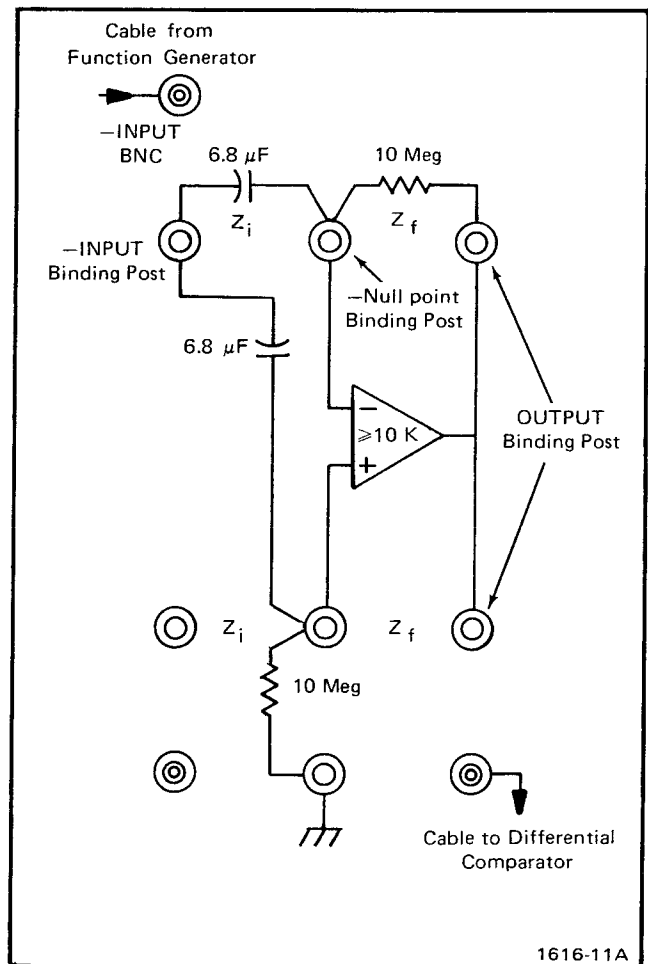

Fig. 2-2. Operational amplifier connected to check Common Mode Rejection Ratio.
b. Connect the two $6.8 \mu\text{F}$ capacitors and the two $100 \text{ M}\Omega$ resistors to the terminals of the AM 501 as illustrated in Fig. 2-2.